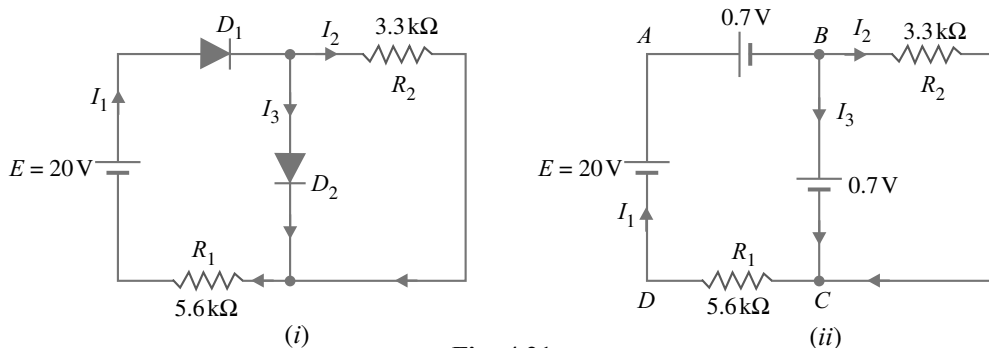

Fig. 4.21
**Example 4.19.** Determine the currents  $I_1$ ,  $I_2$  and  $I_3$  for the network shown in Fig. 4.21(i). Use simplified model for the diodes.
**Solution.** An inspection of the circuit shown in Fig. 4.21 (i) shows that both diodes  $D_1$  and  $D_2$  are forward biased. Using simplified model for the diodes, the circuit shown in Fig. 4.21 (i) becomes the one shown in Fig. 4.21 (ii). The voltage across  $R_2$  ( $= 3.3 \text{ k}\Omega$ ) is  $0.7 \text{ V}$ .
Applying Kirchhoff's voltage law to loop  $ABCD$  in Fig. 4.21 (ii), we have,